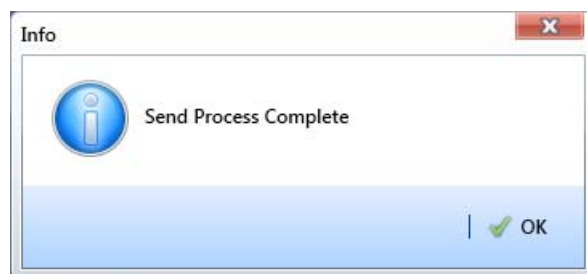

Figure 7-26. Send Process Complete
- 28 When a message displays confirming the send process is complete, click  **OK** to close the message (Figure 7-26). PCS Axis sends the survey file to the *PSData* folder on the Allegro.